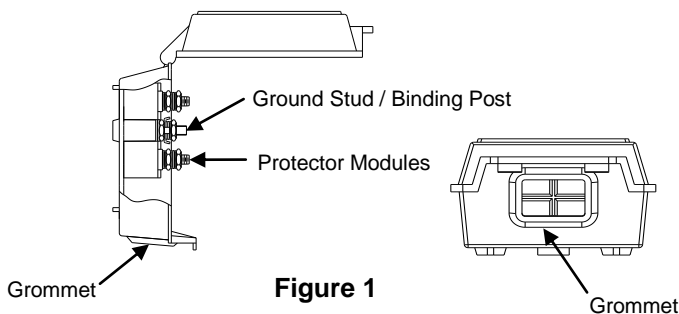

Figure 1
2. A large grommet is located in the center of the base lip to allow Telco cable, customer cable and grounding conductor penetration (See Figure 1).